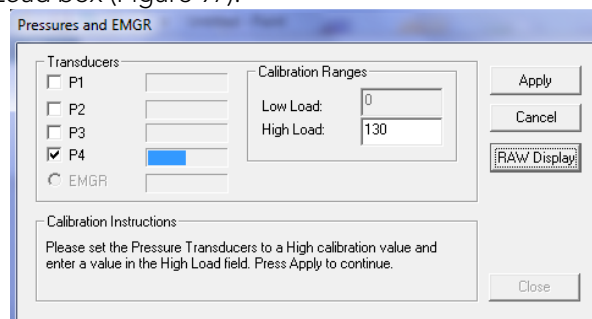

Figure 97: Device High Load Calibration – Pressures and EMGR Window
7. Type 130 in the *High Load* box (Figure 97).